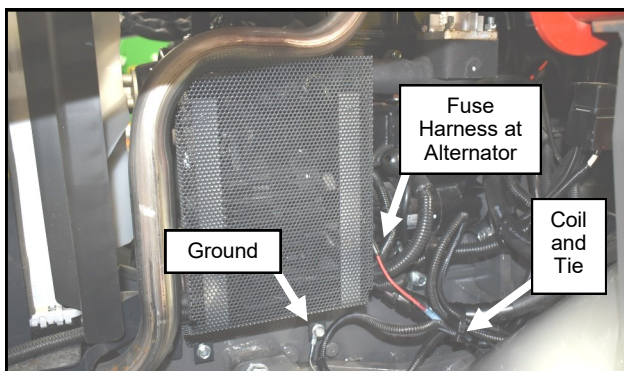

Figure 17.19 (Finish Wiring and Re-install Left Guard)
17.19 Connect the supplied fuse harness ring terminal to the positive post on the back of the alternator. Connect the red wire from the cab power harness to the other side of the fuse harness. Reinstall the protective screen on the left side attaching the ring terminal of the cab harness to the rear mounting bolt. Coil up excess harness and wire tie in place. See Figure 17.19.